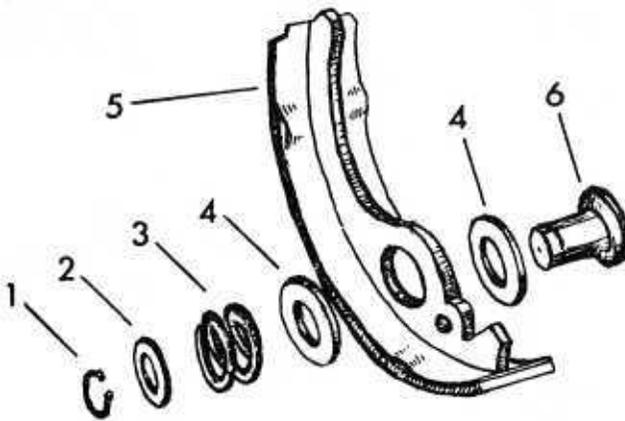

Fig. 8.3. — View of a brake shoe (front or rear) with the parts of the self-adjusting mechanism removed.
Fig. 8.3. shows the components of the mechanism. To dismantle the adjuster (to replace the brake shoe), use a G-clamp and compress the spring so that the circlip (1) is still accessible. Remove the circlip, slowly release the spring tension and take off the components.